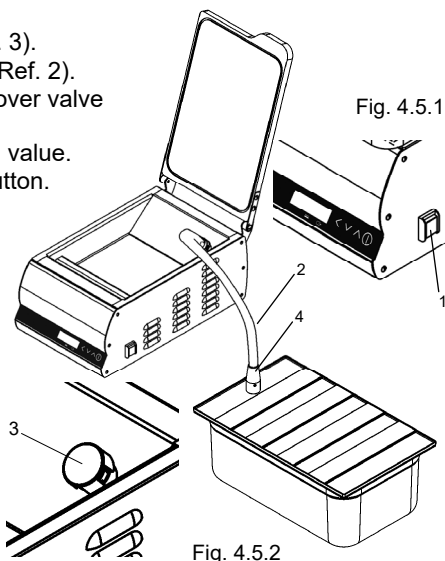

Fig. 4.5.2
4. Remove the suction cap (Fig. 4.5.2 - Ref. 3).
5. Connect the suction kit tube (Fig. 4.5.2 - Ref. 2).
6. Attach the suction kit nozzle to the tray cover valve (Fig. 4.5.2 - Ref. 4).